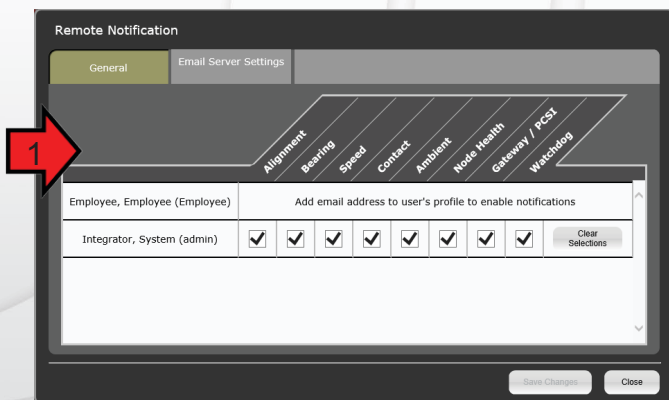

Figure 30
1. Notifications can be enabled for each failure type. (Fig 30) by user